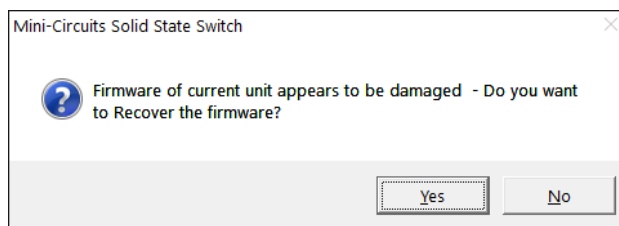

Figure 3.3.8 Firmware recovery notice
3.3.8 If the firmware upgrade was interrupted this can result in partial installation rendering the device inoperable. When you attempt to connect a unit with damaged firmware an alert (See **Fig 3.3.8**) will appear. Click 'Yes' to restart the firmware upgrade and repeat the attempt to install the firmware, or 'No' to cancel.